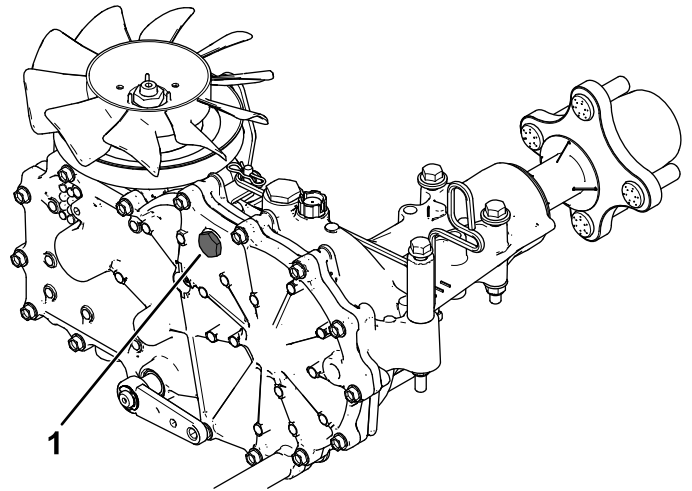
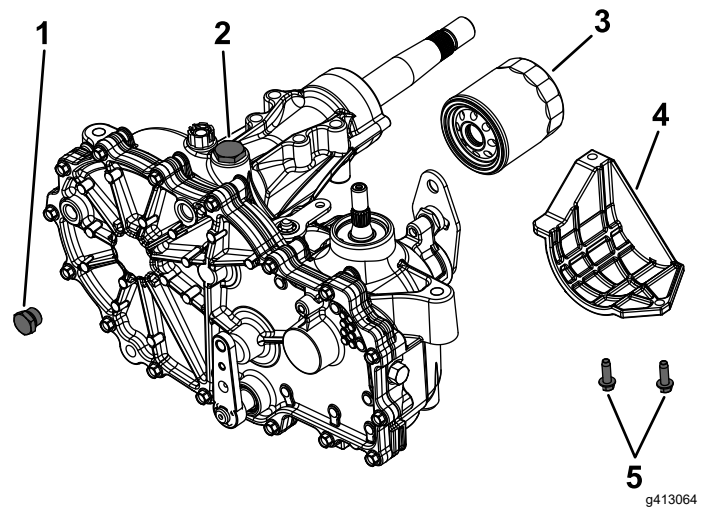

Figure 92
Figure 93
2. Remove the transaxle top port plug from each side and ensure that fluid appears at the bottom of each transaxle top port (Figure 92).
If necessary, add Toro® HYPR-OIL™ 500 hydraulic fluid through the fill port until the fluid appears at the bottom of each transaxle top port (Figure 92 and Figure 93).
4. Locate the filter and guards on each transaxle-drive system (Figure 93).
5. Remove the 3 screws securing the filter guard and guard (Figure 93).
7. Remove the top port plug (Figure 93) from the left side and right side transaxles prior to filling with oil.
9. Install the top port plug into each transaxle as the oil level reaches this port (Figure 93).